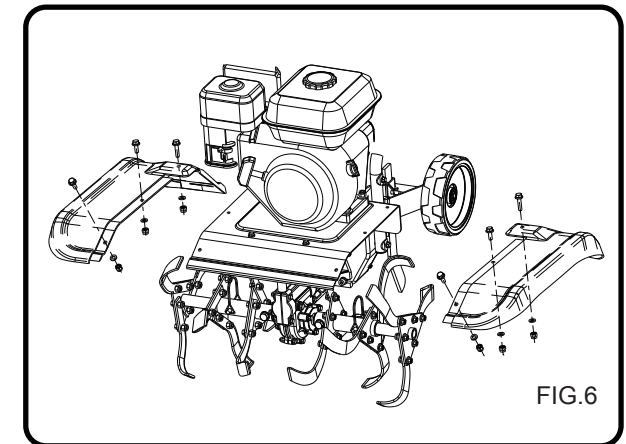

FIG.6
Step 6: Installing The Outside Tine Shields (See Fig.6)